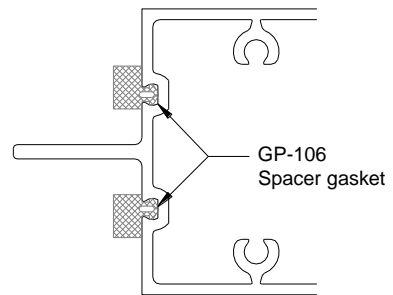

Figure 47: Spacer Gasket Install
- 18.4 Install GP-106 spacer gasket onto face of SSG horizontal as shown on **FIGURE 47**.